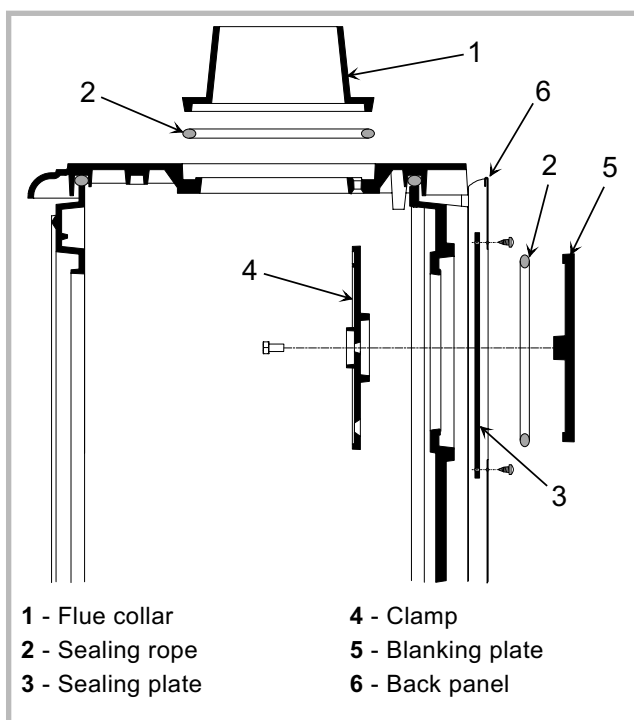

Figure 6 - Smoke exit on the top
**For a smoke exit on the top (fig. 6):**